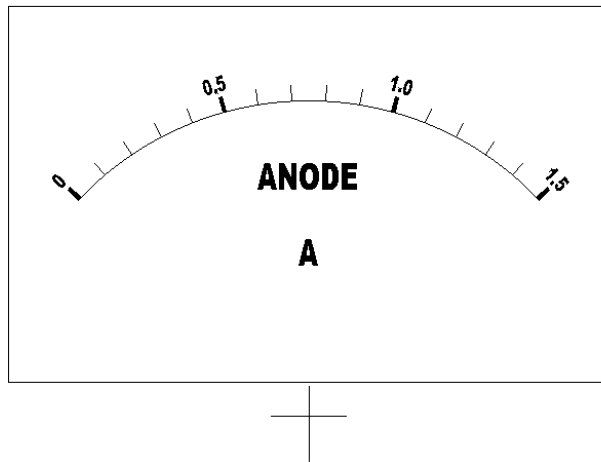

Figure 6: A meter scale re-drawn using AutoSketch.
- Re-draw the complete meter face using a CAD package, and glue the printout on to the existing scale plate. This is a lot more effort, but the results look very professional (Figure 6).